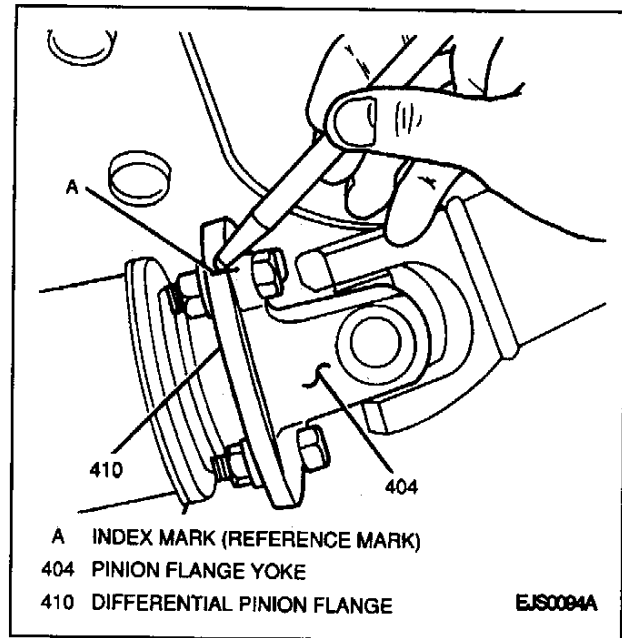

Figure 23—Placing Index Marks on Pinion Flange Yoke and Differential Pinion Flange
- 8. Place index mark (reference mark) on the propeller shaft pinion flange and the front differential pinion flange of the transfer case to front differential propeller shaft (03-72LE, 4-Speed) (Figure 23).
- 9. Four bolts, four nuts and separate pinion flange yoke from front differential pinion flange (03-72LE, 4-Speed) (Figure 23).